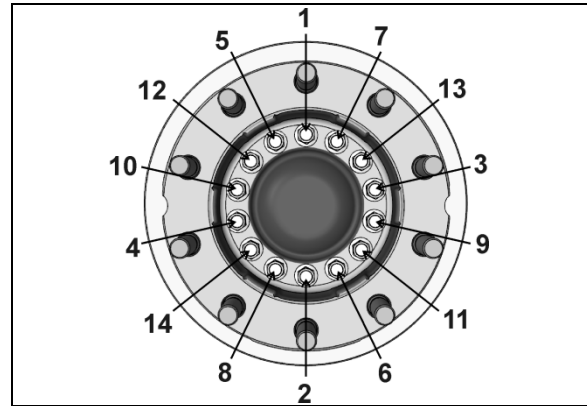

FIGURE 23: HUB FLANGE HEX CAP SCREW TIGHTENING SEQUENCE
12. Secure hub flange and rotor to unitized hub bearing using 14 hub flange cap screws. Torque to  $183 \pm 9$  lbf-ft. Refer to FIGURE 23 for tightening sequence. **NOTE: discard bolts that start to show signs of deformation in the threaded area or beneath the head of the bolt.**